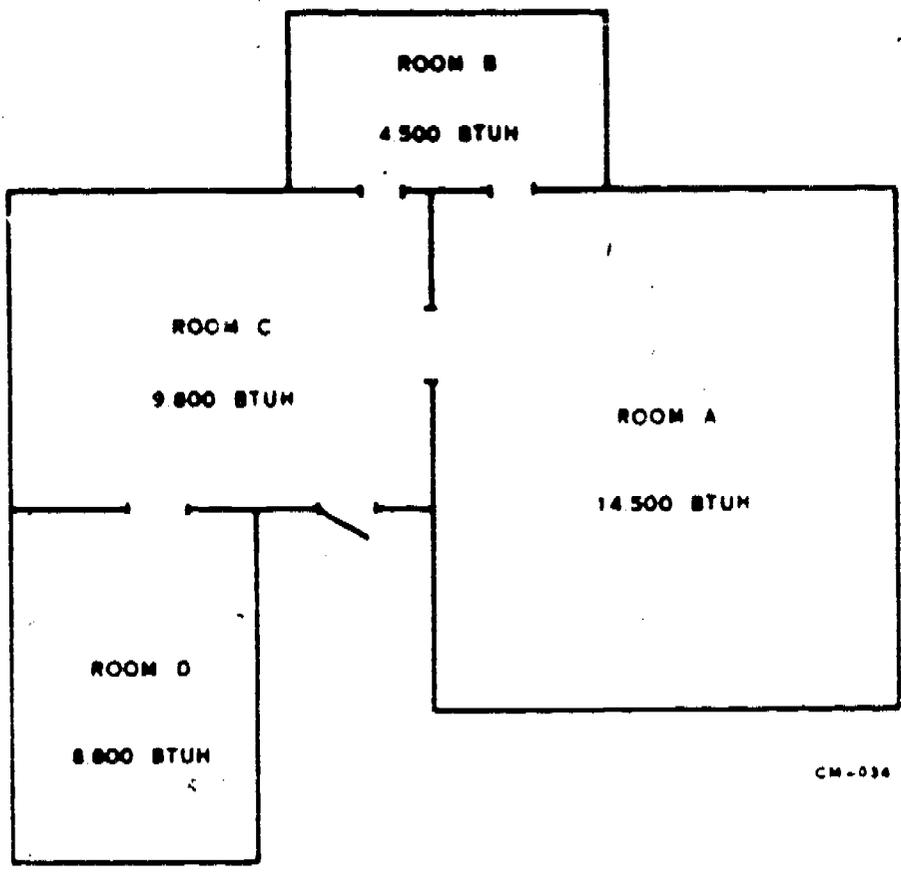

Figure 37. Building Diagram
**NOTE:** The specified conditions and the hourly heat load for each room are shown on the building blueprint. (Figure 37)